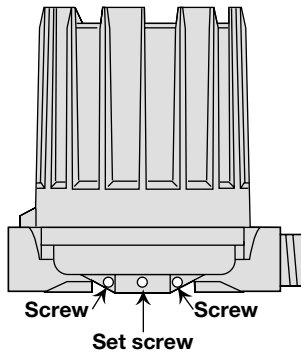

Figure 2
1. Loosen set screw(s) at base of switch housing. Refer to Figure 2.
16. Loosen the set screws at the base of the switch housing. Rotate switch housing to correct position and tighten set screws. Refer to Figure 2 on page 3.